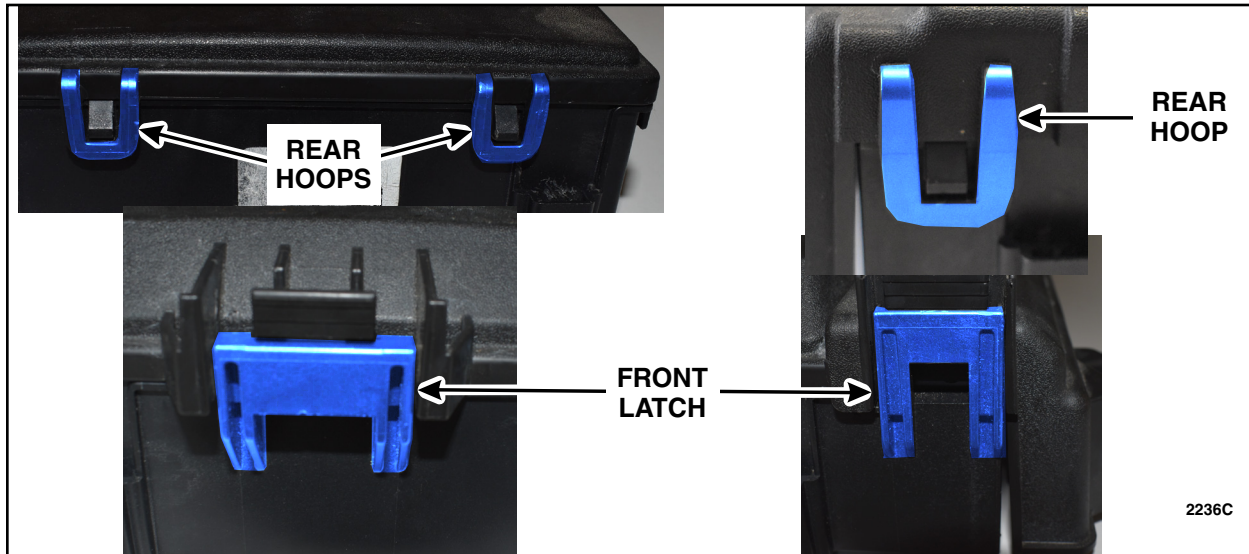

FIGURE 3
3. Check to make sure that the covers are properly installed. On the fuse box cover there are three attachment features securely engaged, two hoops in the rear and one latch in the front. On the High Current cover there are two attachment features securely engaged, one hoop in rear fully engaged and one latch in the front fully engaged. See Figure 3. Are both covers properly installed?